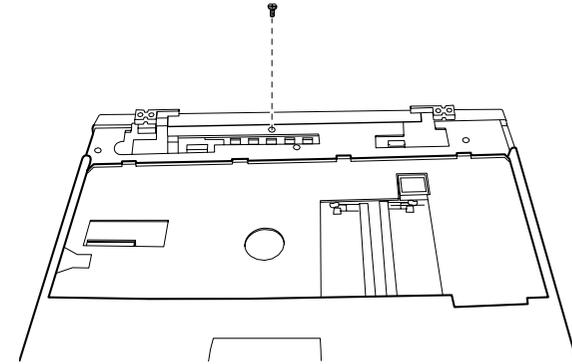

Figure 5-30. Removing One Screw Fastening the System Board
2. Remove one screw fastening the system board. Refer to Figure 5-30.)
4. Put the notebook surface up. Replace one screw and the keyboard module. (Refer to Figure 5-30 earlier.)